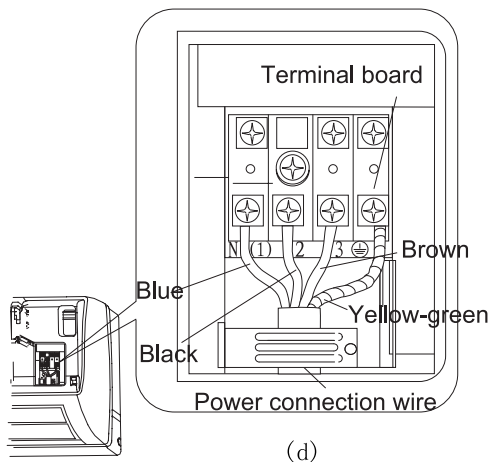

Fig.9-3
- Screw off the fixing screw of cover plate for wiring terminals , as shown in Fig.9-3 (a);
- For one to one unit to connect the blue power connecting line to terminal "N(1)" at the terminal box and the brown line, to "2", the yellow/green (ground line) to ground to  as shown in Fig.9-3(b); For one to two unit to connect the blue power connecting line to terminal "N(1)", the red line to "2", brown line to "3", the yellow/green (ground line) to ground to  as shown in Fig. 9-3(d); Press tightly the power lines with the line pressure groove turned forward at the connection bar in the electric box.
- As to the heat pump, the signal control line is connected to indoor unit with connector as shown in Fig.9-3(c),(d);